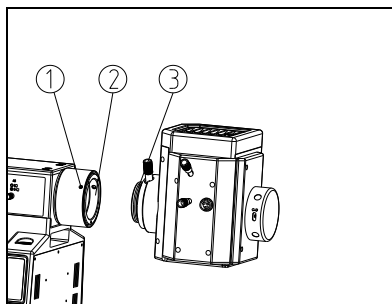

Fig.34
(1) Loose the lock-screw ① completely on fluorescence illuminator.(See Fig.34)
(2) Push the light source holder ② into the holder ③ on the fluorescence illuminator to the bottom. Make the upper plane of the light source group to be horizontal and lock the screw ①.